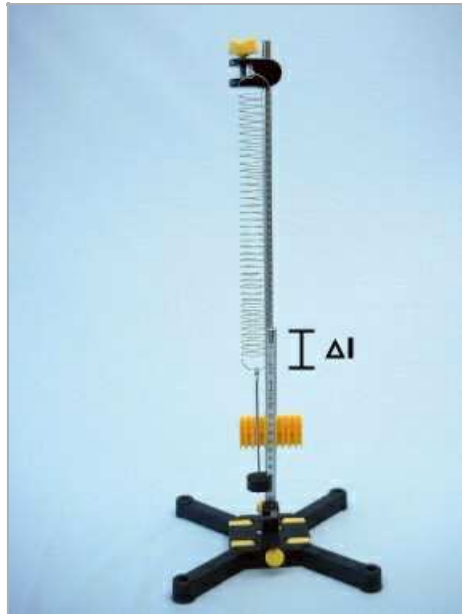

Fig. 11
- Increase the mass in increments of 10 g to max. 40 g and determine for each mass the extension  $\Delta l$  (Fig. 11).